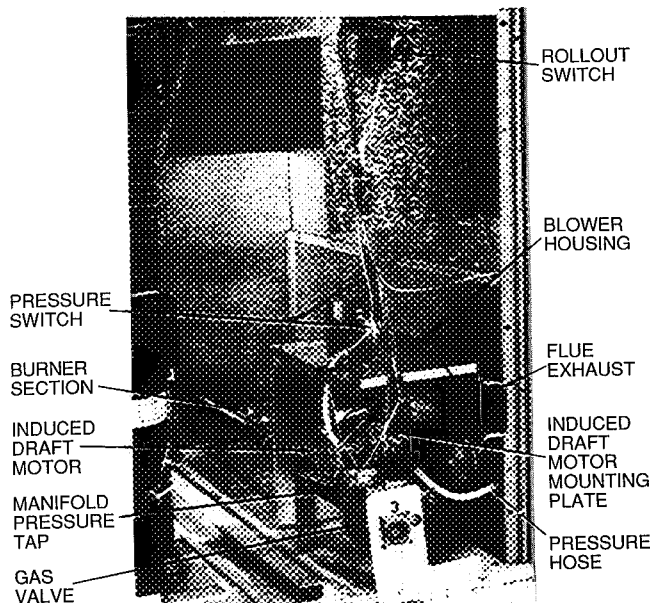

Fig. 22 — Burner Section Details
4. Remove the 7 screws that attach induced draft motor mounting plate to blower housing (Fig. 22).
REMOVAL OF GAS TRAIN (Fig. 22 and 23)
REPLACEMENT OF GAS TRAIN (Fig. 22 and 23)